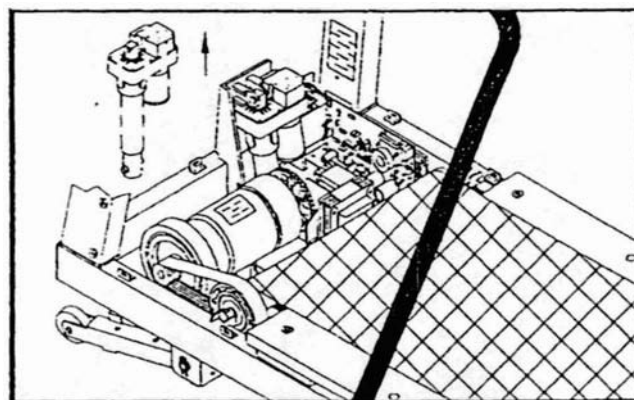

Fig.6
6. Take the elevation unit out of the machine. (See Fig.6)